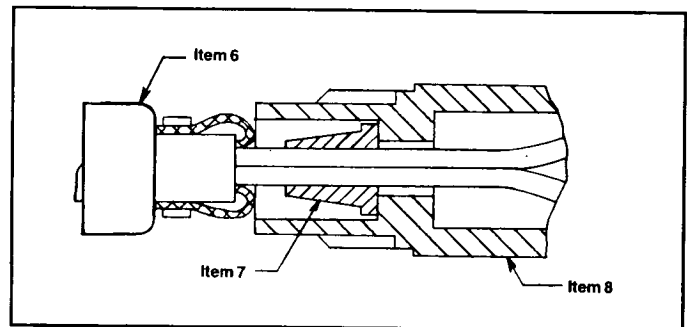
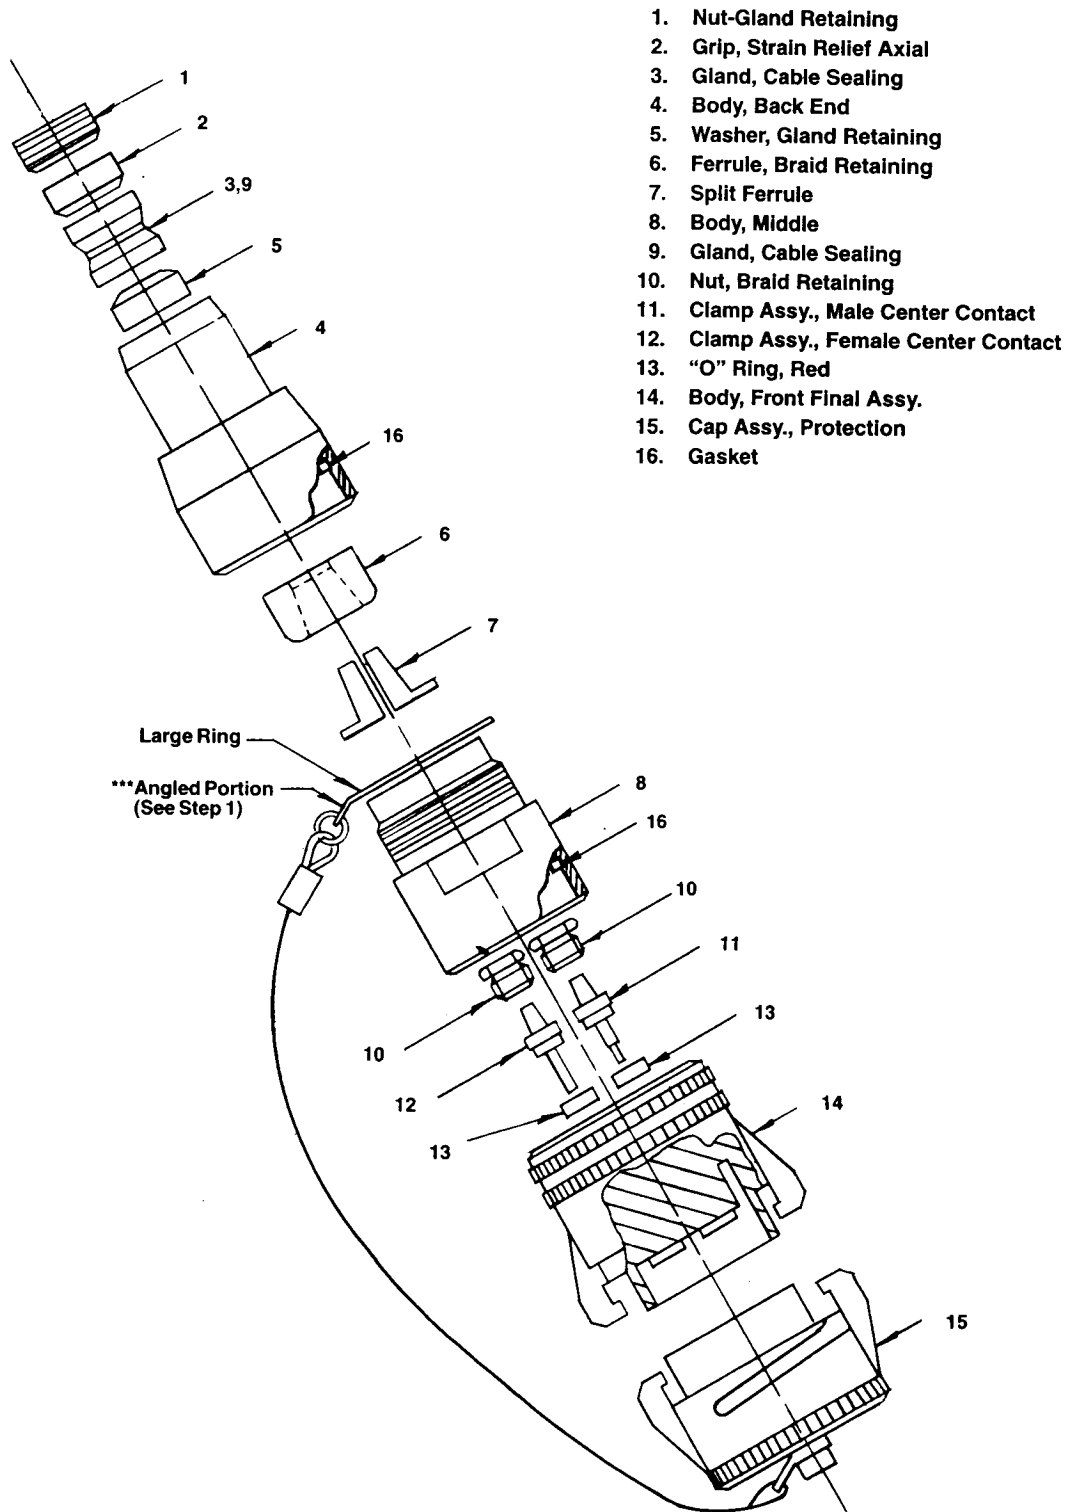

Figure 5
Figure 8
See exploded view of entire assembly with parts list in Figure 8 on page 3.
\*\*\* See Figure 8 to determine position of angled portion on large ring.
5. Drop one red "O" ring (item 13) into outer male contact and one red "O" ring into outer female contact. Insert male contact into outer contact "A" and the female contact into outer contact "B". (Figure 8)
6. Guide the two nuts (item 10) forward and thread into the respective contacts. Tighten each nut (3/8 in. hex) to a torque of 15 – 20 lb./in. The nuts should bottom on rear of contacts.
7. Thread the middle body (item 8) into the front body assembly (item 14). Tighten to 80 – 85 lb./in. with 1 1/4 in. flats. (Mating connector will be required to tighten above). Pull slightly on cable.
8. Insert split ferrule (item 7) into main body (item 8). Twist cable 360° so inner cables come together. (This makes seating of ferrule into body much easier). (Figure 5)